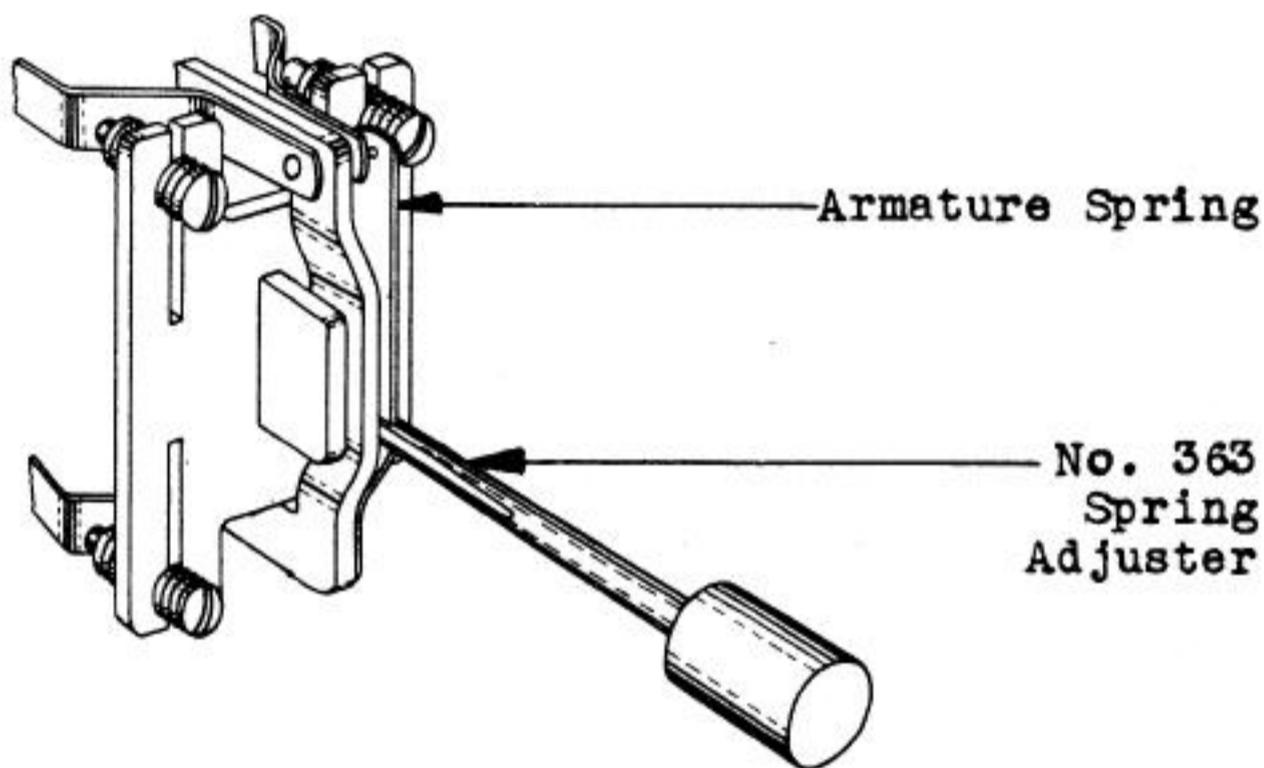

Fig. 112 - Method of Adjusting Armature Spring for Minimum Front Contact Make
(10) The above procedures will not take care of the spring attached to the armature. To position this spring for front contact make, adjust it with the No. 363 spring adjuster until it makes contact with the proper gauge inserted. Apply the spring adjuster slightly above the bend in the spring as shown in Fig. 112.